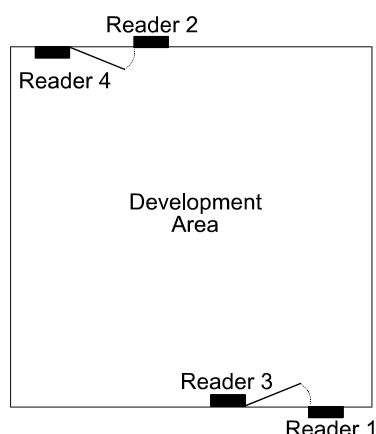

Figure 3 Possible Reader Locations for Local Anti-Passback
1. Local anti-passback only operates between the doors on a single door controller with specific readers allocated as entry ("doors" 1 and 2) and exit ("doors" 3 and 4), i.e. one reader per channel, see Figure 3.
1. **Anti-Passback on Entry.** When this feature is active, any key used to enter an area cannot be used to enter the area again unless it has first been used to leave the area. Using the example shown in Figure 3, if you use your key to enter development, you cannot use the same key to enter development unless it has first been used to leave development. If the key is used again at an entry door, a `No Entry: Passback` transaction is generated and the lock will not operate. Access will continue to be denied until the key has been used at an exit reader or the passback timeout period has expired.
2. **Anti-Passback on Exit.** When this feature is active, a key cannot be used to exit an area unless it has first been used to enter the area. This is only available when anti-passback on entry is also active. Using the example shown in Figure 3, if you have not used your key to enter development (e.g. you came in with someone else), you cannot use your key to leave development. If the key is used again at an exit door, a `No Exit: Passback` transaction is produced and the lock will not operate. Access will continue to be denied until the key has been used at an entry reader or the passback timeout period has expired.